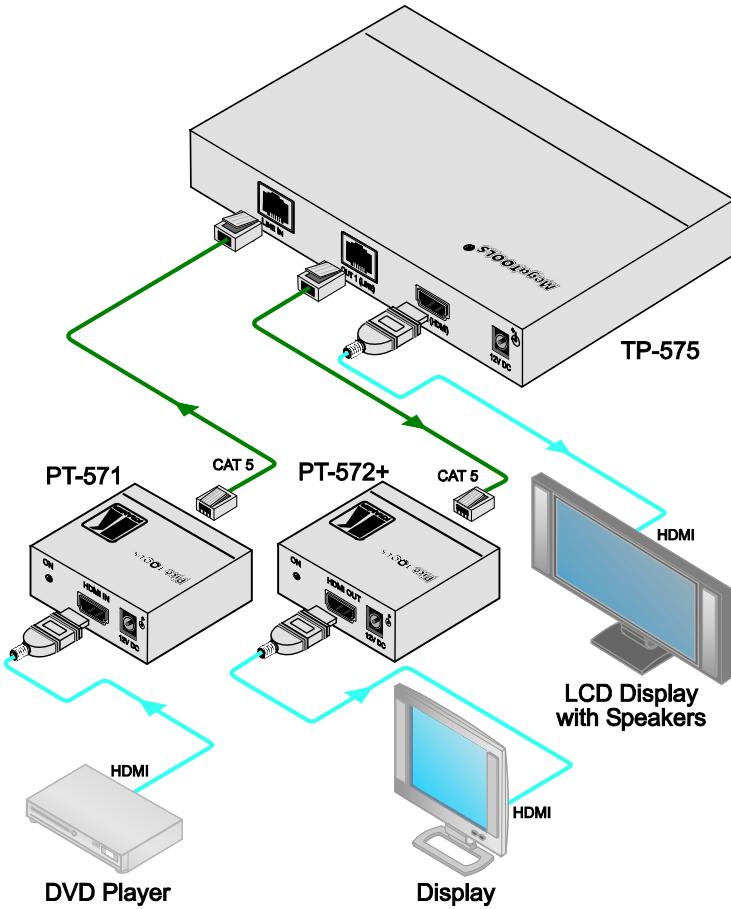

Figure 2: Connecting a TP-575 HDMI Line Receiver / DA
To connect the **TP-575** together with the **PT-571 HDMI Line Transmitter** and the **PT-572+ HDMI Line Receiver**, as illustrated in the example in Figure 2, do the following:
6. Connect the 12V DC power adapter to the power socket² on the **TP-575** and connect the adapter to the mains electricity (not shown in Figure 2).